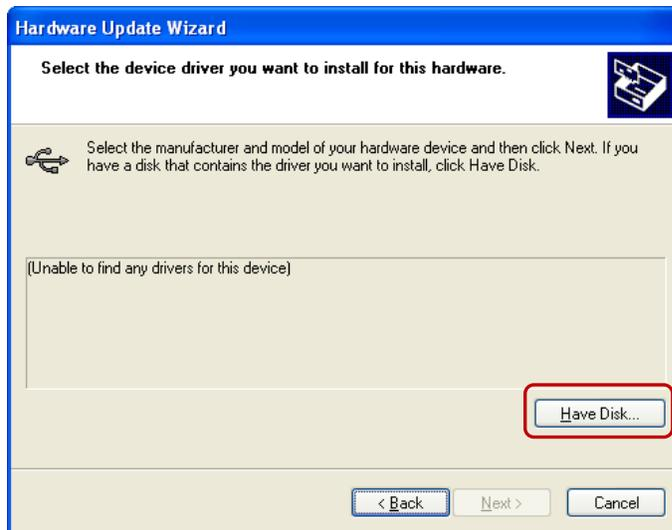

Fig. 22
16. Select **Have Disk** button as shown in Figure 22.